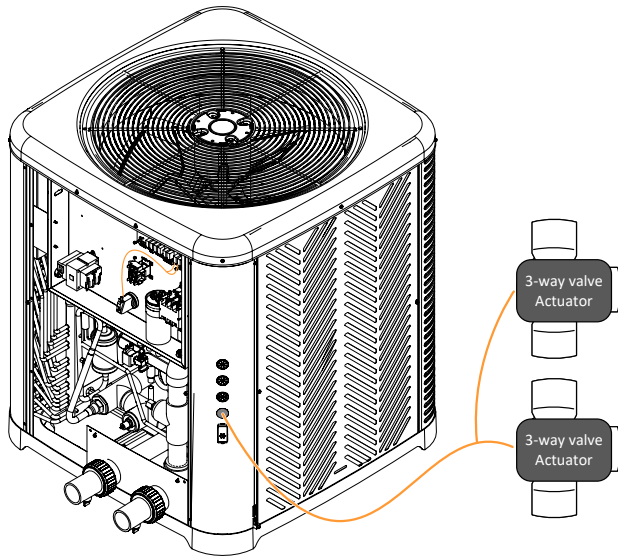

Figure 131. Wiring Valve Actuators
1. Follow the general instructions for wiring external devices to connect the valve actuator(s) harness from the valves to the control board of the heater. See Figure 131.